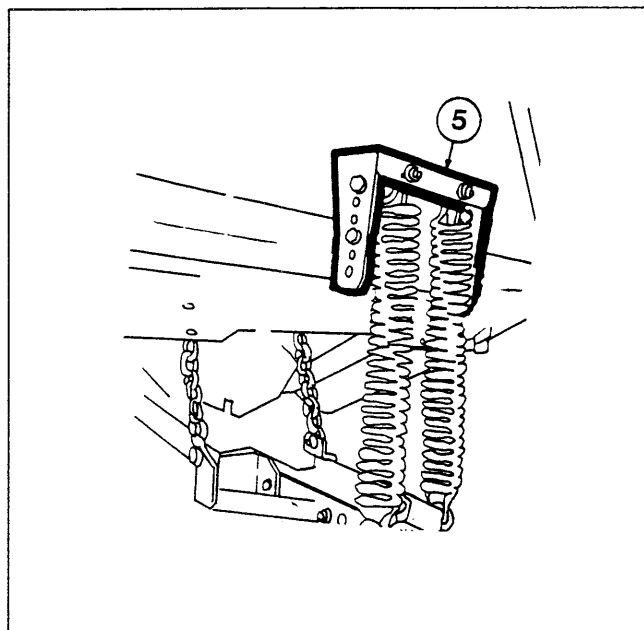

Figure 5
13. Take the mower stabilizer bracket (5) and bolt it to the mounts at the front of the ROPS using the 3/8"x1" hex bolts and whiz nuts supplied. (see Figure 5)
the mower deck springs to the mower stabilizer bracket (5) using the hardware from the spring mount bracket removed in step 9. Lower the mower deck. (see Figure 5)